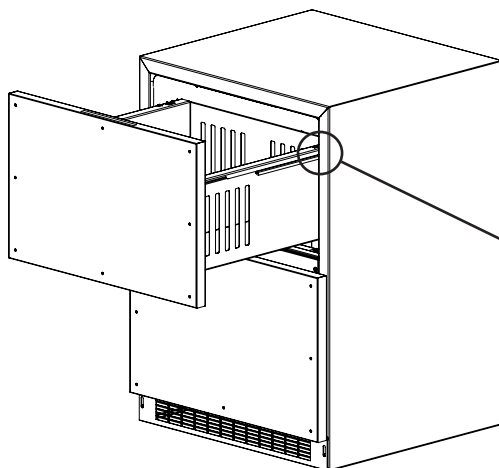
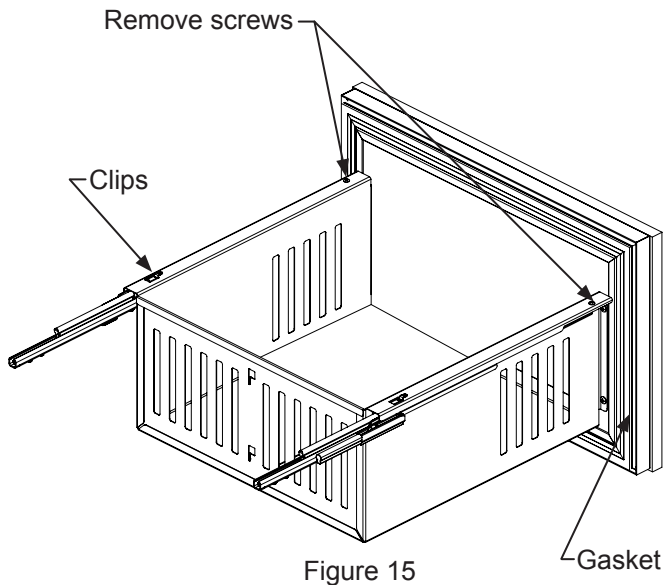

Figure 14
Figure 15
1. Begin by pulling out the top drawer. (See Figure 14). Remove screws securing drawer to slides (See Figure 15). Pull drawer forward, lift up and out to clear clips in rear of drawer. Move drawer forward about 1" (2.5 cm) and set down on slides. At the right rear corner of the drawer disconnect the display wire harness (See Figure 14a). Remove the drawer from the unit by lifting up off of the slides. Repeat for bottom drawer but disregard the harness instructions as there is no wiring to the bottom drawer.
2. Remove the drawer divider from the drawer and remove the gasket from the drawer front. (See Figure 15). Do this by pulling the gasket out of the channel that holds it to the drawer front. This will expose the clearance holes for mounting the overlay panel. (See Figure 19).